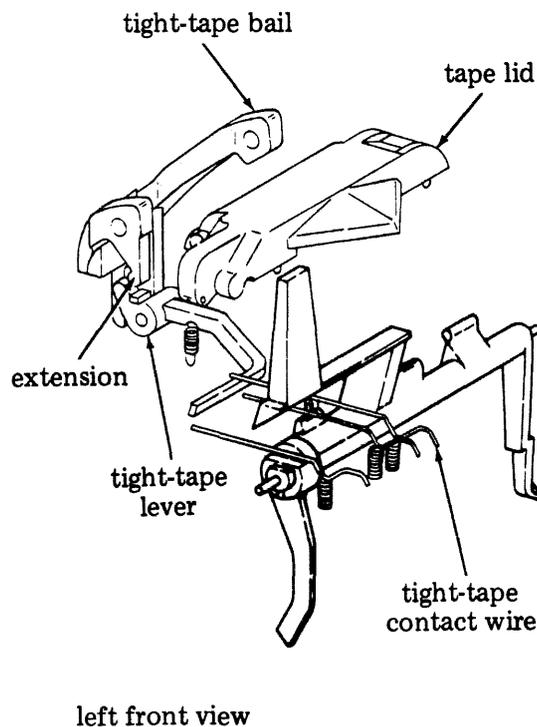

Figure 14 - Tight-Tape Mechanism
B. Tight-Tape Mechanism (Figure 14)